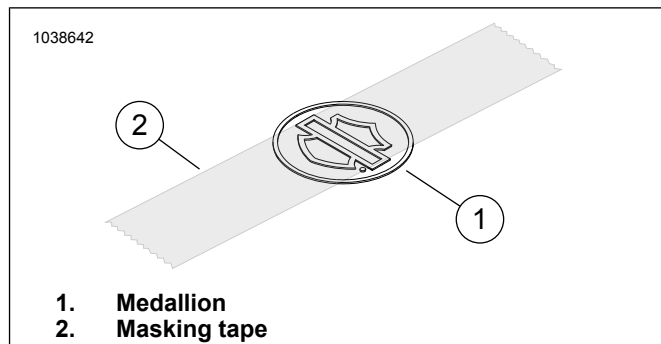

Figure 2. Apply Tape to Medallion
2. See Figure 2. Place a three inch piece of masking tape (2) centered over bar and shield of medallion (1).
4. See Figure 2. Install medallion to bracket.